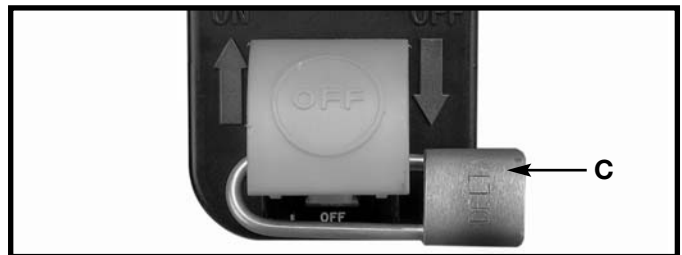

Fig. 39
IMPORTANT: When the machine is not in use, the switch should be locked in the "OFF" position to prevent unauthorized use, using a padlock (C) Fig. 39 with a 3/16" diameter shackle.